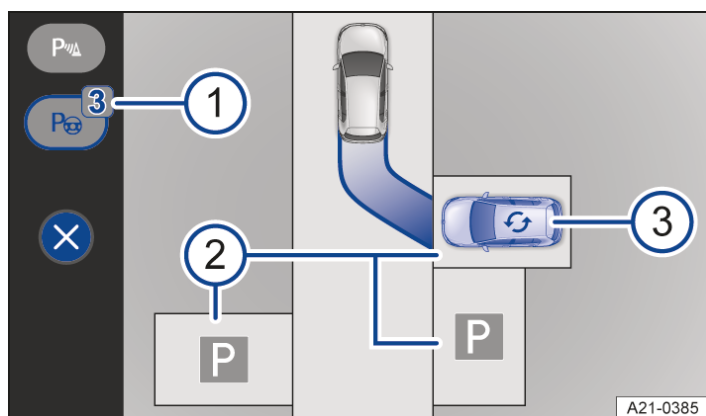

Fig. 1 Infotainment system: selecting a parking space (illustration).
Park Assist Plus automatically selects a parking space and shows this as the preferred parking space (blue vehicle) in the Infotainment system → Fig. 1 ② or ③.
The number of detected parking spaces is displayed on the function button → Fig. 1 ①.